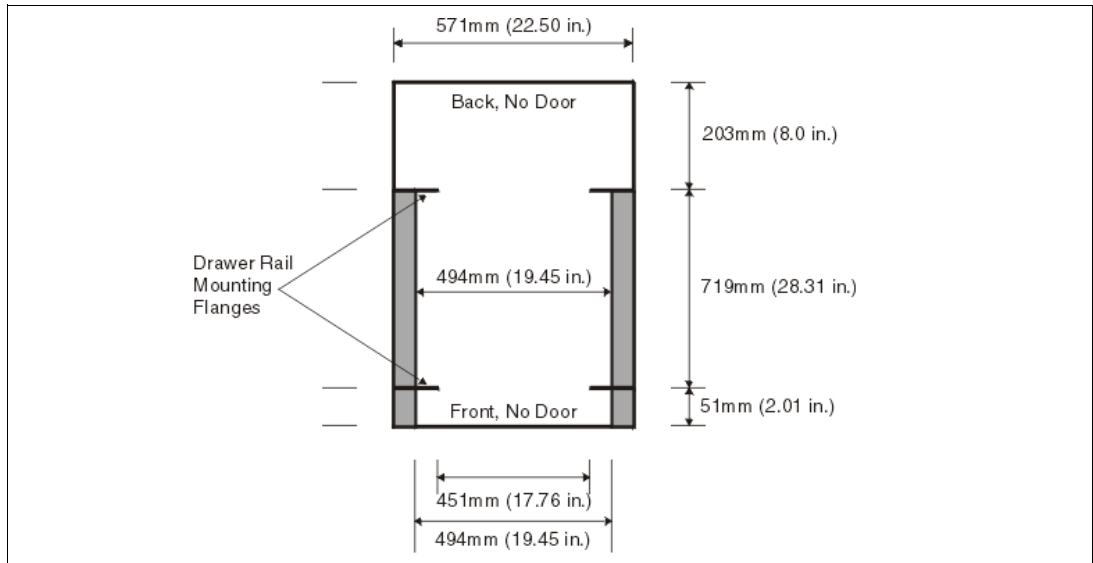
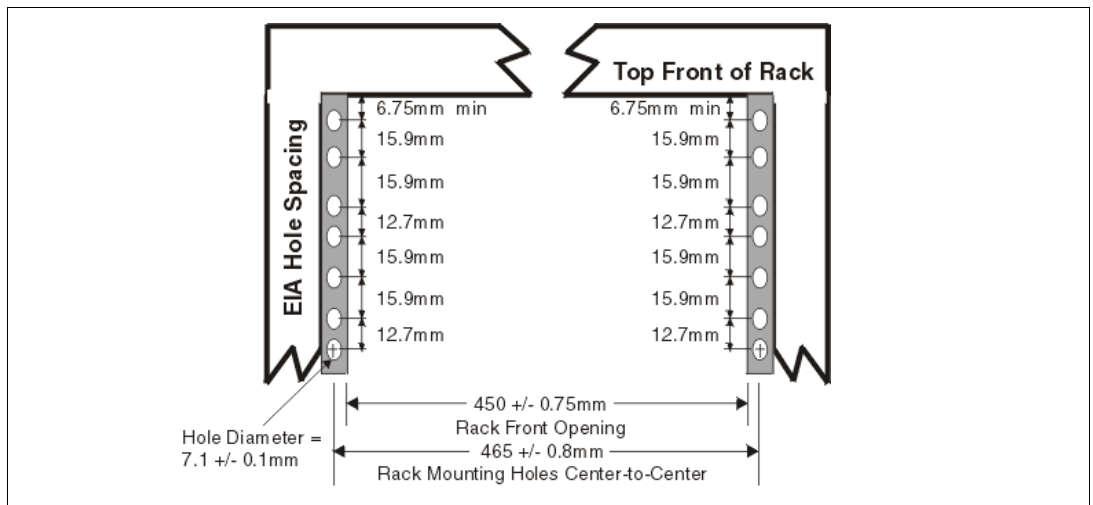

Figure 1-7 Top view of rack specification dimensions (not IBM)
Figure 1-8 Rack specification dimensions, top front view
- ▶ The front rack opening must be 451 mm wide + 0.75 mm (17.75 in. + 0.03 in.), and the rail-mounting holes must be 465 mm + 0.8 mm (18.3 in. + 0.03 in.) apart on center (horizontal width between the vertical columns of holes on the two front-mounting flanges and on the two rear-mounting flanges). Figure 1-7 is a top view showing the specification dimensions.
- The vertical distance between the mounting holes must consist of sets of three holes spaced (from bottom to top) 15.9 mm (0.625 in.), 15.9 mm (0.625 in.), and 12.67 mm (0.5 in.) on center, making each three-hole set of vertical hole spacing 44.45 mm (1.75 in.) apart on center. Rail-mounting holes must be 7.1 mm + 0.1 mm (0.28 in. + 0.004 in.) in diameter. See Figure 1-8 on page 24 and Figure 1-7 for the top and bottom front specification dimensions.